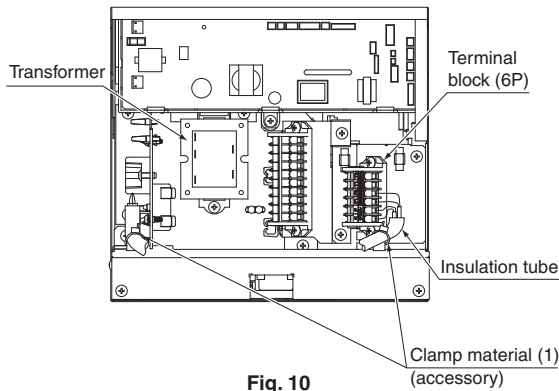

Fig. 10
in Fig. 10.
- Then secure them in place with the included clamp material (1) as shown in Fig. 10 to protect them from external force from outside the unit.